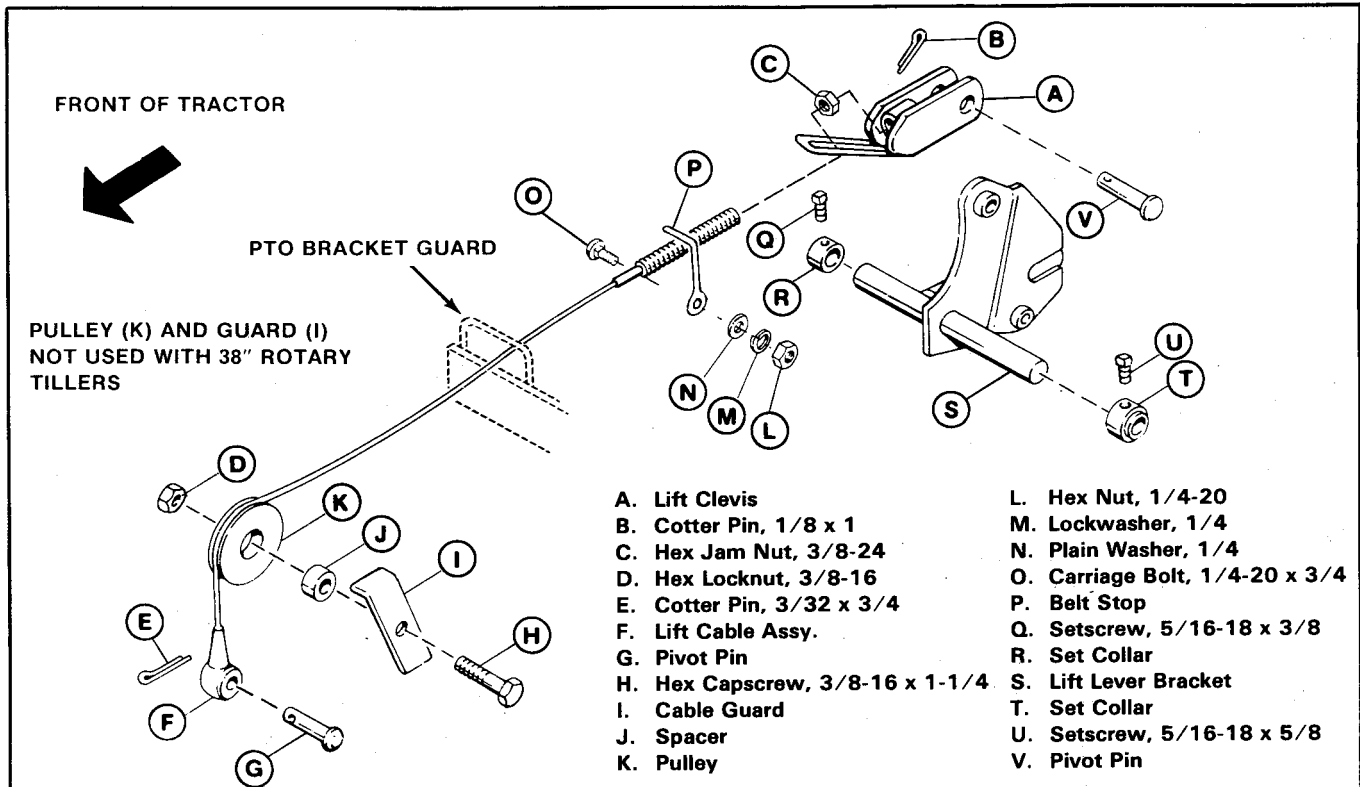
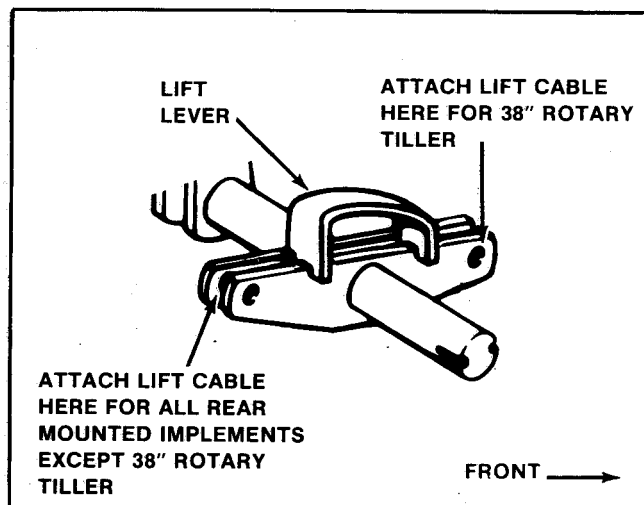

Figure 1
Figure 4
Take inventory of parts in this kit by referring to the illustrated list (figure 1). Become familiar with their descriptions.
5. To pre-set the length of your cable assembly, assemble the lift cable, hex jam nut, and lift clevis to a length of 41-1/8" from center of hole in clevis to center of cable eye. Do not lock jam nut at this time. See figure 1 for correct sequence.
6. Bring cable forward passing it through the guard on the PTO bracket (figure 1).
7. The pulley and cable guard (figure 1) are not used with a 38" rotary tiller. With the cable over the top of the spacer, attach the spacer inside the u-shaped bracket using the capscrew and locknut as shown in figure 1. The u-shaped bracket is located underneath the frame above the lift lever.
9. Attach the end of the cable to the lift lever with pivot pin and 3/32 x 3/4" cotter pin (figure 1). Be sure to install the pin from the left-hand side as shown. To determine which hole to use in the lift lever, see figure 4.